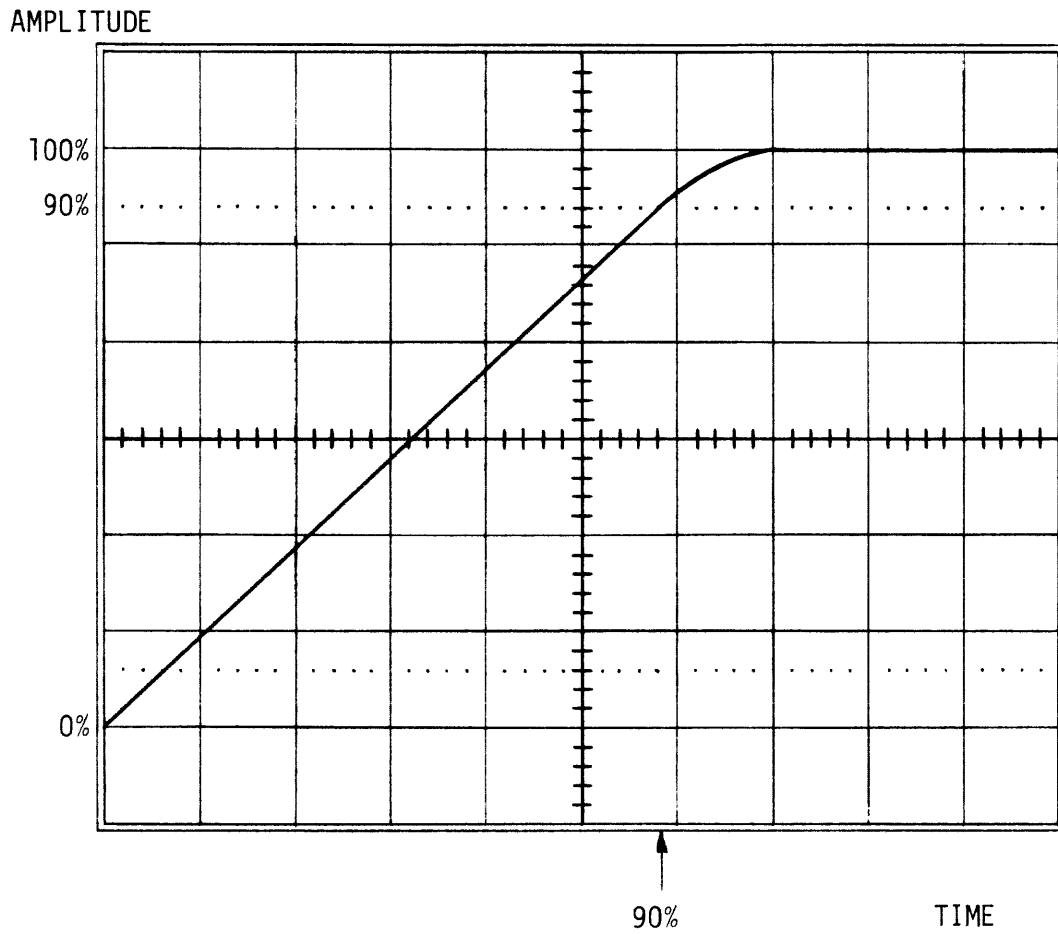

Figure 10-1, RAMP ADJUST SCOPE DISPLAY
- 4) Trigger negative on TP1 and view TP5 (tachometer feedback). Uncalibrate the scope amplitude and position the trace such that the 90% amplitude point of the start ramp may be easily ascertained. See figure 10-1.